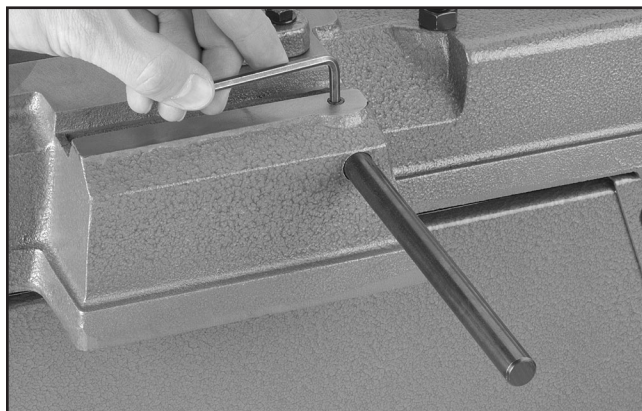

Figure 18. Installing work stop shaft.
2. Tighten the set screw with the 4mm hex wrench as shown in **Figure 18**.